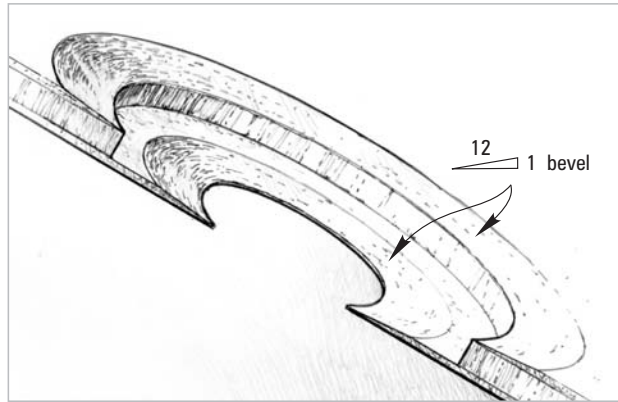

Figure 5-16 Grind a 12-to-1 bevel around the edge of the inner and outer skins.
3. Grind a minimum 12-to-1 bevel around the inner edges of both skins to provide adequate bonding surface when re-laminating the skin repair patches (*Figure 5-16*).